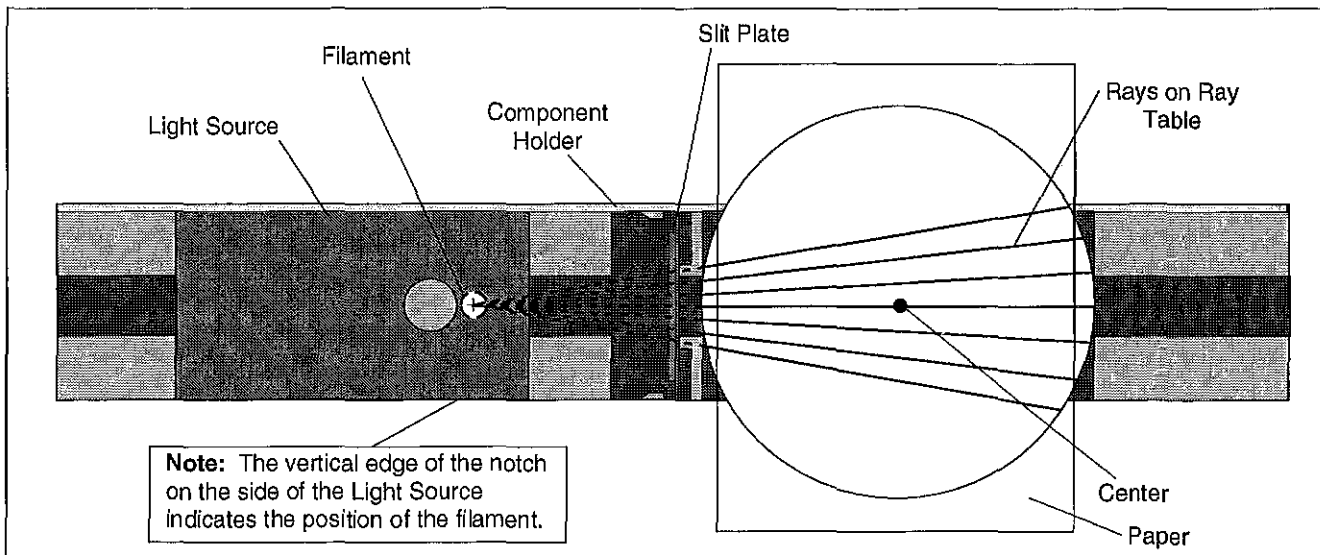

Figure 1.2: Ray Tracing
You can use the fact that light propagates in a straight line to measure the distance between the Light Source filament and the center of the Ray Table. Figure 1.2 shows how. The rays on the Ray Table all originate from the filament of the Light Source. Since light travels in a straight line, you need only extend the rays backward to locate the filament. (See Step 3 in the first part of this experiment.)
- ① Measure the distance between your reference mark and the point of intersection of the rays.
- ② Use the metric scale on the Optics Bench to measure the distance between the filament and the center of the Ray Table directly (see the note in Figure 1.2). _____
- ③ How well do your measurements in Steps 1 and 2 agree? Comment. _____